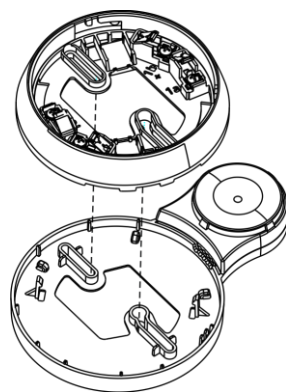

Fig. 3
1. Align the mounting holes of the standard detector base with the mounting holes of the sounder base (Fig. 3).